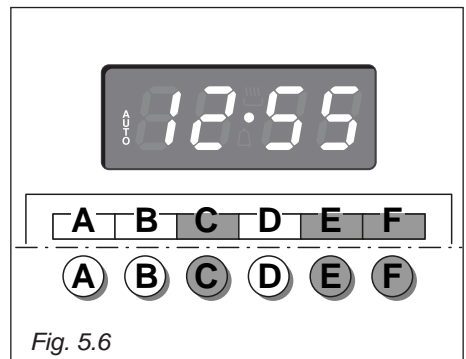

Fig. 5.6
2. Set the end of the cooking time by pressing the "C" button (the cooking time already added to the clock time will appear) and the "F" button (fig. 5.6); if you pass the desired time you may get back by pushing the "E" button.